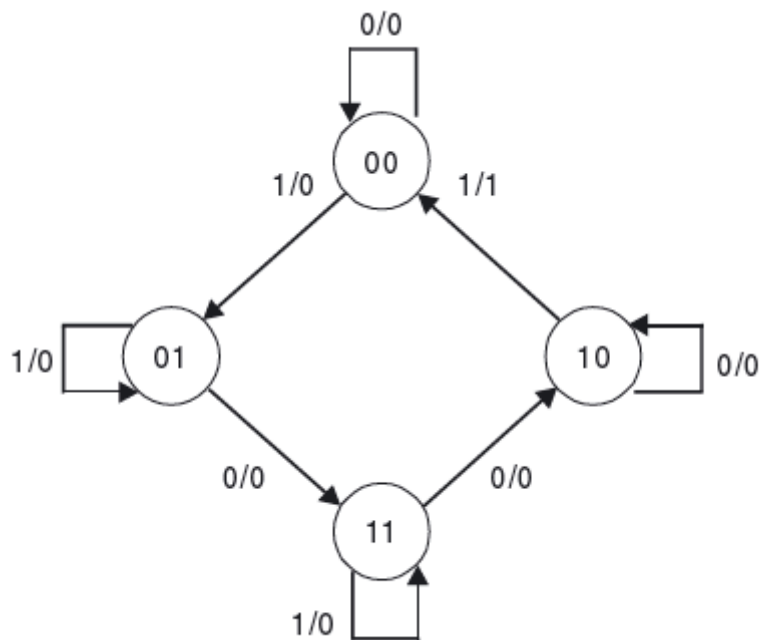

Figure Q 3A
- 3A. For the state diagram shown in Fig Q 3A, design a sequential circuit using D flip flops. (5)
- 3B. Design a 3 bit up-down counter that counts up from 0 to 7, then counts down from 7 to 0 and repeats itself. (5)
- 4A. Explain the principle of difference mode and common mode gains in an Op-amp with suitable equations. (5)
- 4B. A voice signal has to be analysed to detect the peak value of its amplitude over a time period of 500 seconds. Design an op-amp circuit for the same. (5)
- 5A. What is the significance of giving a feedback to an Op-amp? Explain the operation of the same with and without feedback using suitable circuits and derivation. (5)